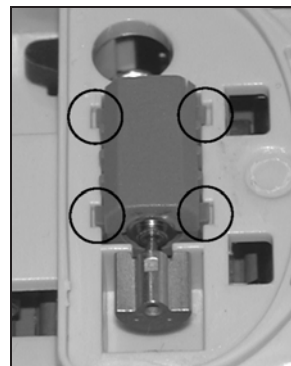
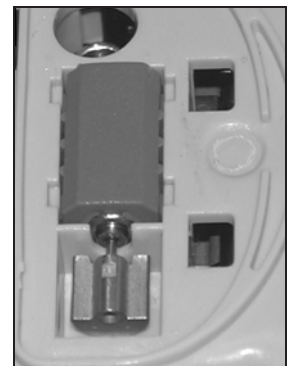

Figure 7-16.
Figure 7-17.
2. Push down squarely on module jacket. (See Figure 7-16.) The jacket hooks should slip into their respective slots in the compartment. Hooks are not visible when vibe assembly is properly seated. (See Figure 7-17.)